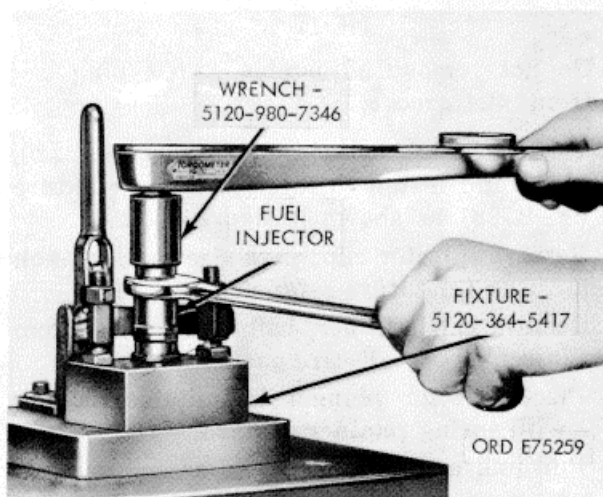

Figure 3-50. Injector cup-removal/installation.
d. Place injector in injector cup wrench (30, fig. B-28) and install in injector holding fixture (29, fig. B-28) as shown in figure 3-50.
g. Install plunger in injector body from which it was removed and place injector in fixture (fig. 3-50).
i. Select cup of proper size (fig. 3-57) and install finger tight on injector body. Apply tension to align plunger in body, back off 1/2 turn, tighten with cup wrench (30, fig. B-28) to 55 foot-pounds as shown in figure 3-50.